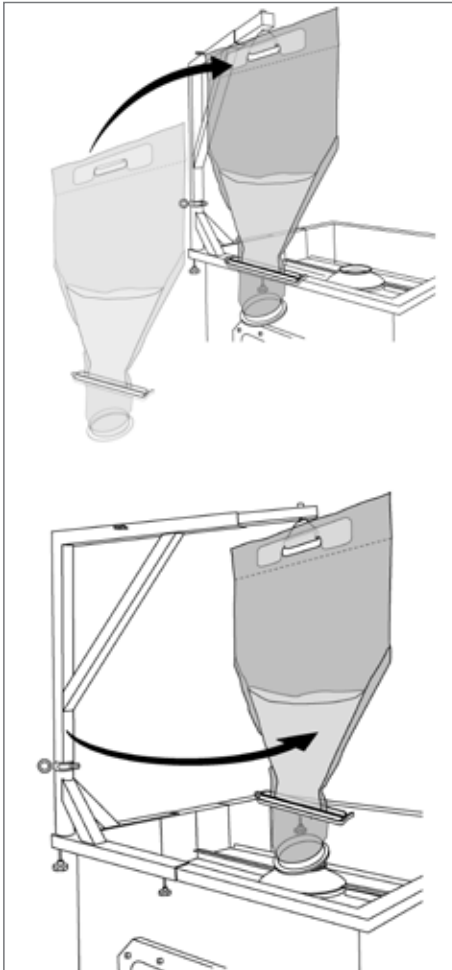

Figure 68
- Hang the powder bag onto the powder bag holder and position the powder bag holder above the Palletank® (see Fig. 68)